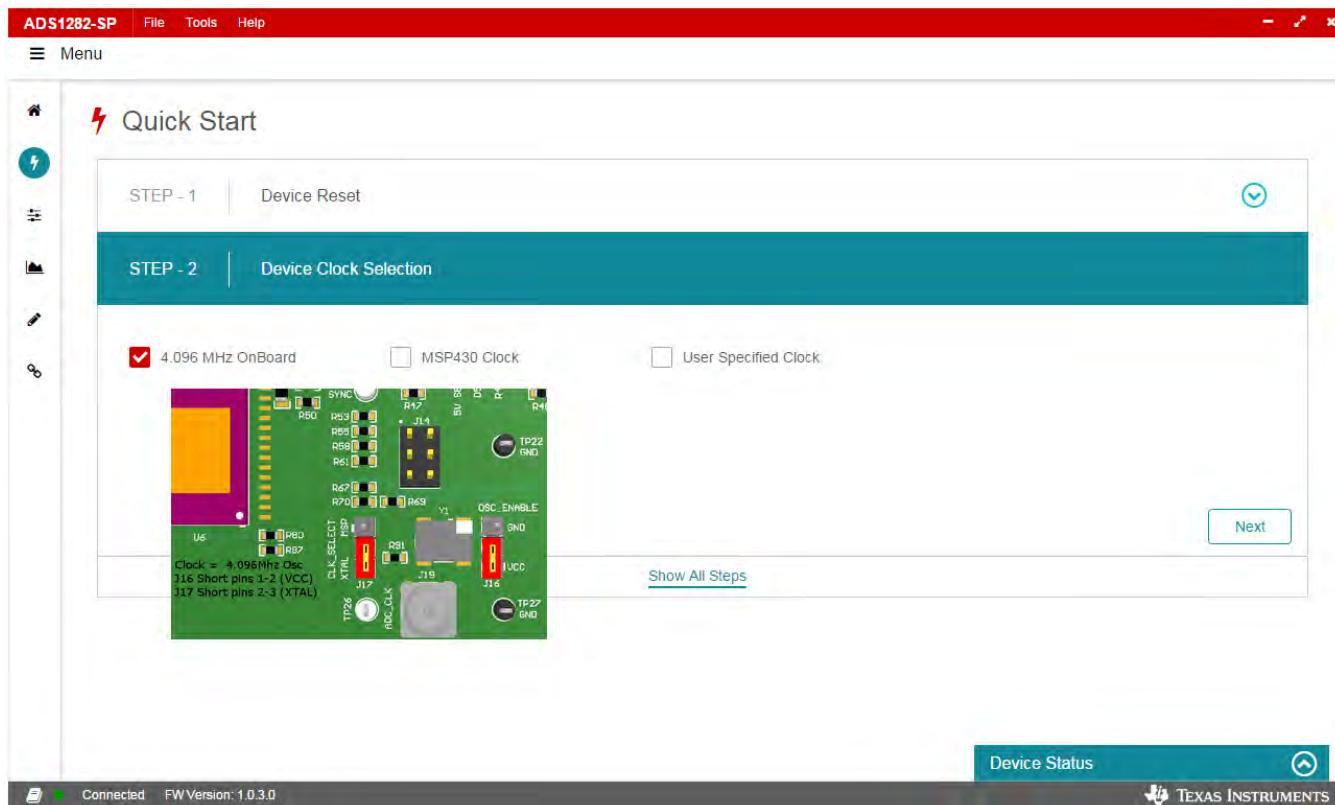

Figure 20. ADS1282-SP GUI Quick Start STEP-2
STEP-2 of the **Quick Start** page is **Device Clock Selection** as shown in Figure 20. There are three options for configuring the clock (1) **4.096 MHz On Board XTAL** (default), (2) **MSP430 Clock**, and (3) **User Specified Clock**.
Figure 20 shows the default clock configuration which uses a on-board 4.096-MHz crystal oscillator. By hovering over the picture with the mouse, the graphic is enlarged showing the jumper locations needed for the selected clock configuration.